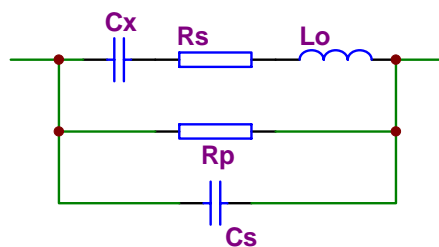

Figure3-8 Equivalent circuit of an actual capacitor
- a) We can select the circuit mode according to the variation of D at two different frequencies. If the dissipation factor of a capacitor increases with the increase of the test frequency, series circuit mode should be selected. If the dissipation factor decreases with the increase of the test frequency, parallel circuit should be used. For inductor, the situation is just in the opposite side. In fact, D is impossible in direct ratio with the test frequency. From Figure 3-8, we can find that R_p and R_s exist at the same time. If R_s is more significant than R_p , series mode is selected; If R_p is more significant than R_s , parallel mode is more suitable.